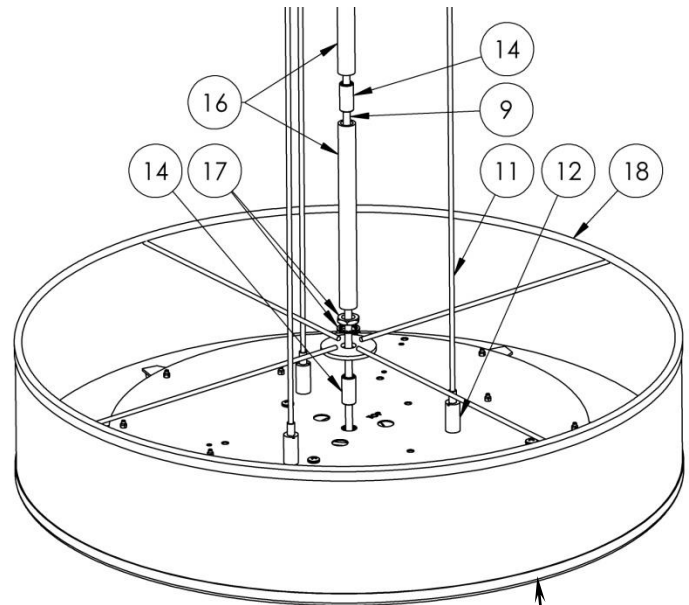

FIG 3
- A center pipe stem is supplied with this fixture consisting of up to three, 12" lg. pipe sections (16) to be connected with pipe nipples (14), supplied. Pre-assemble pipe stem. Using the nut & washers from strain relief (8), attach swivel (15) with nipple (14). Attach (pre-assembled) pipe stem to swivel. Route the power cord (9) through the pipe stem first, before attaching to fixture (Fig 3) above nut & washer (17) & diffuser (18).
- Feed the three aircraft cables (11) to the connectors (12) that are mounted on the pan. Insert the cable by pressing the "Spring Pin" (12) (Fig. 3) downward and holding until it comes out at the other end. Repeat these steps for the other cables. Note: **Cable length adjustments might be needed again for the correct cord length, alignment and be equal to the center pipe stem length.**
- A. Adjust the aircraft cables up and down by pressing the “spring pin” (12) downward and holding until the proper cable length is attained based on the center pipe stem length so they are taught and even. Repeat for other two cables. Note: Extra cable length should be looped, tied, or cut to minimize light shadows within the diffuser.
Step 6 – Mounting diffuser (Fig. 3, 4 & 5)